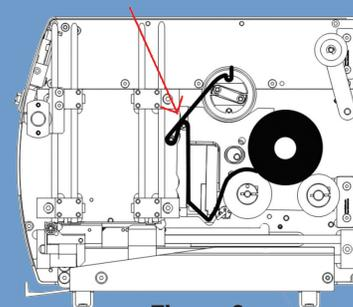

Figure 3
3. The print-head moves up and down approximately 10 mm. If the print-head is not in the up position raise it by lifting the white roller. See Figure 3.